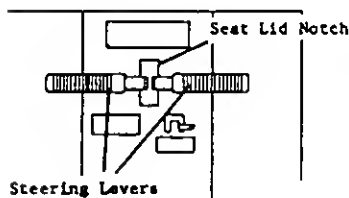

FIGURE 11A
7. Shut the engine off. Unlock the steering levers and place the levers in the full forward position. The levers must rest against the front edge of the notch in the seat lid (see Figure 11A). If levers do rest against the front edge of the notch, proceed to Step 9, if not, perform Step 8.